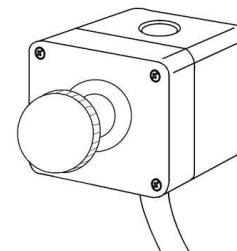

Fig 13
The machine will stop when you push the red OFF button (B) or the remote OFF-switch (U, Fig 1; Fig 13).
The remote OFF-switch (U, Fig 1; Fig 13) stops the machine.